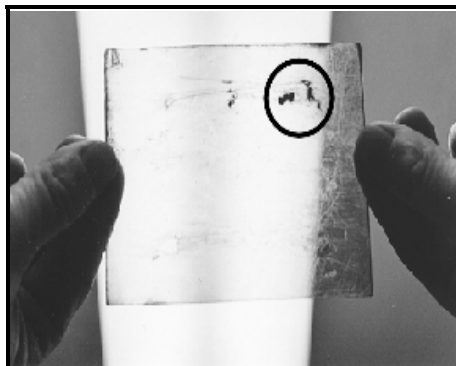
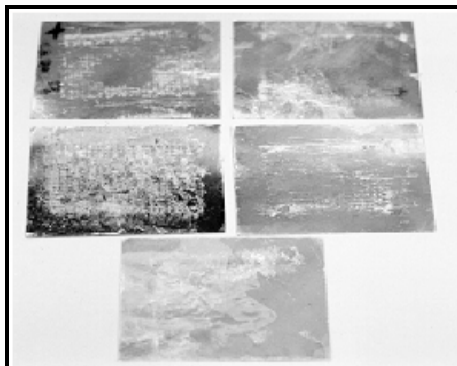

Figure 8
Figure 9
5. Once dried, mica plates must be inspected. Hold plate up to a light to ensure no arc holes have developed (**SEE FIG. 9**) or that any other damage is present (**SEE FIG. 8+9**). With a damp cloth, (not wet) wipe out ozone generator chamber, to remove any debris which may be present.